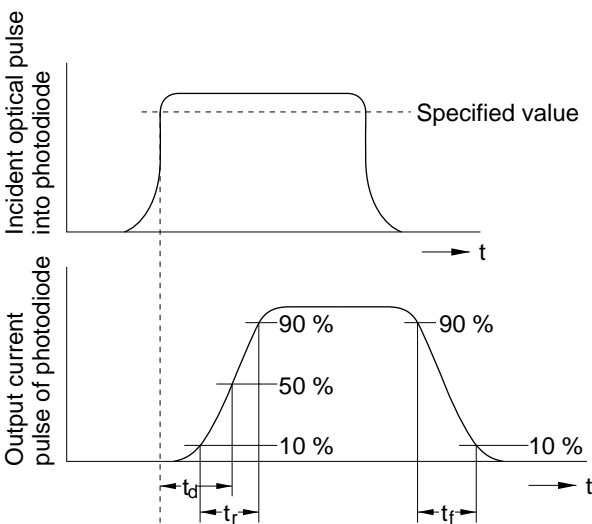
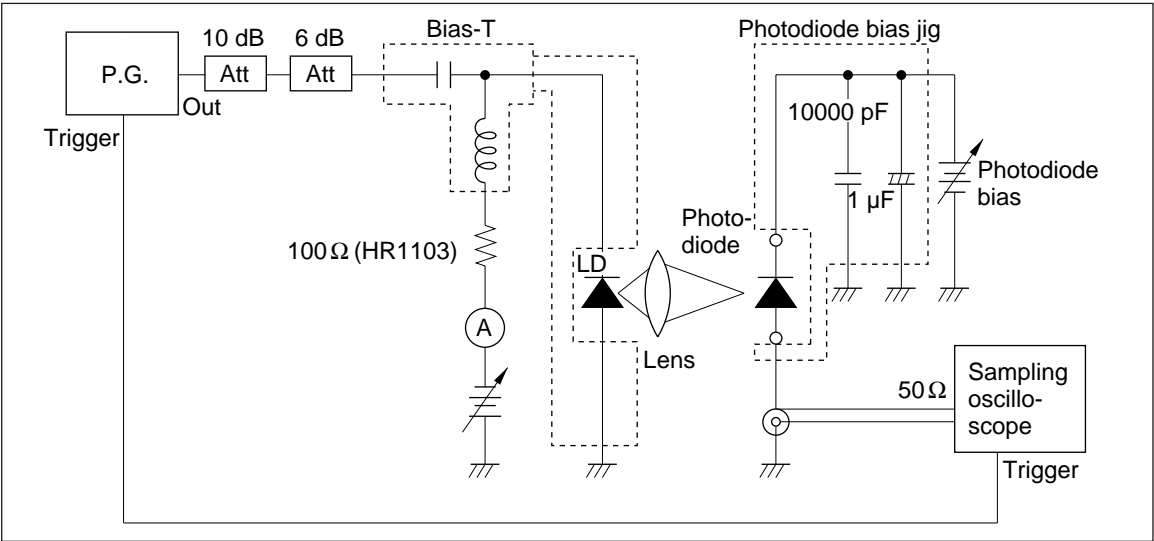

Figure 4-45 Definition of Photo-detection Response Time
Figure 4-46 Measuring Setup for Photo-detection Response
Photo-detection response can be observed by measuring rise time, t_r , and fall time, t_f , for a photodiode output-current pulse when a pulse is input into the photodiode (figure 4-45). A measurement setup example is for presented in figure 4-46. A high-speed response capability is required for precise measurement of photodiode response when a monochromatic light source (LD)